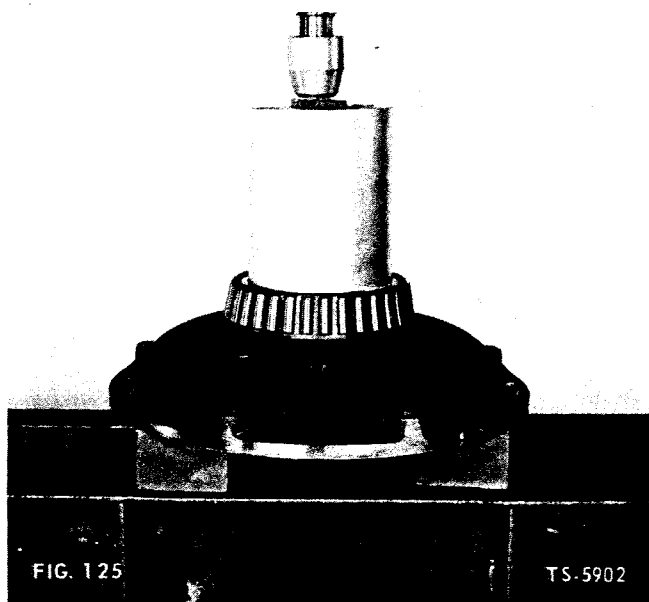
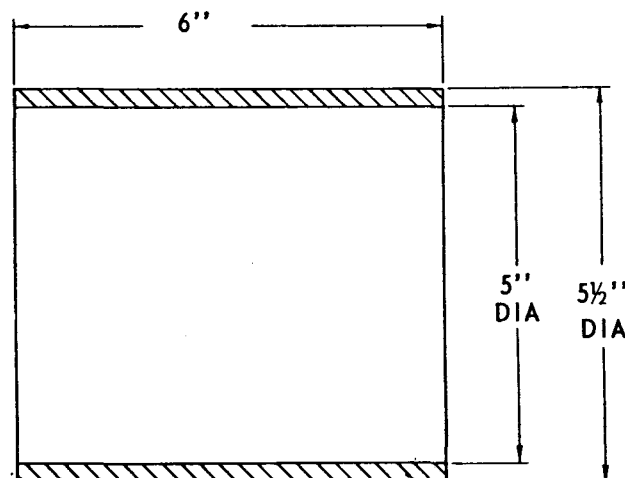

FIG. 125
FIG. 126
1. Check that bearing seat on hub is free of nicks and burrs. Press bearing cone on internal gear and hub using bearing driver (Fig. 125). Bearing driver dimensions are given in Fig. 126.